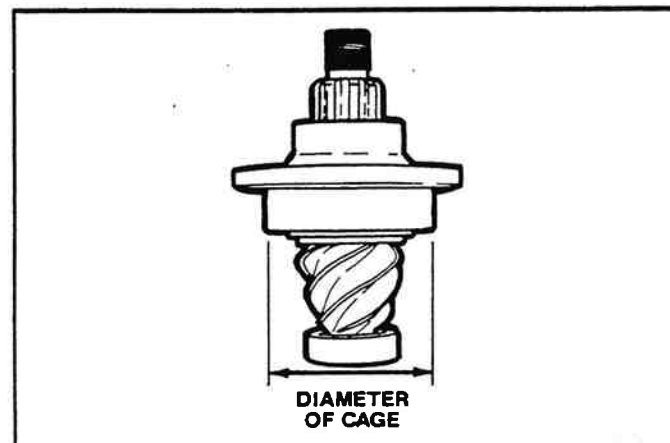

Figure 2-45. Measuring Diameter Of Cage.
- Measure the diameter of bearing cage where the cord was wound. Measure in inches or centimeters (Figure 2-45).